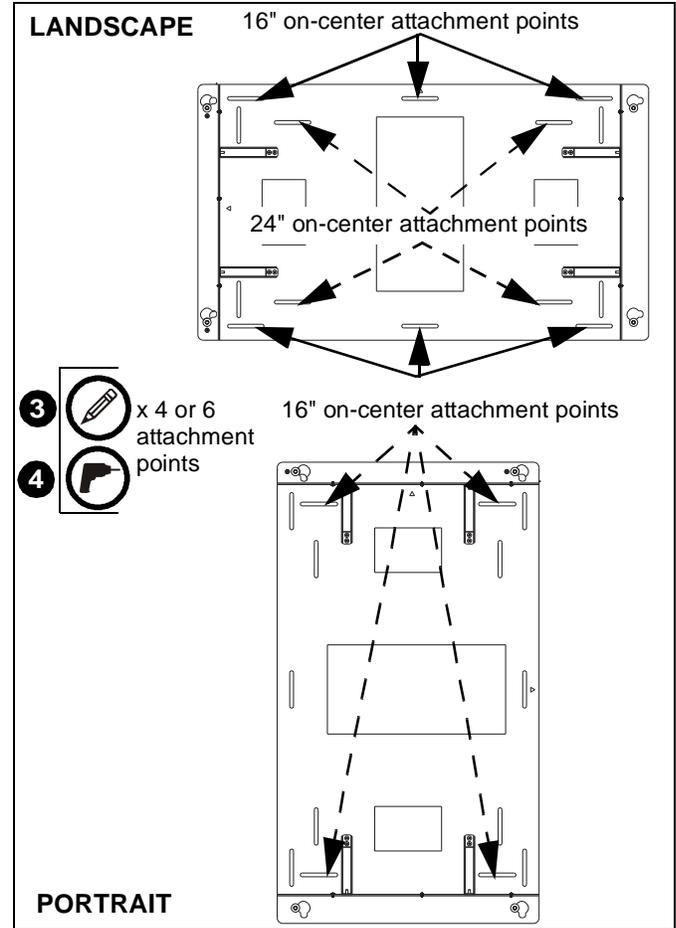

Figure 2
2. Level and adjust PSMO2086 making certain slots at upper and lower edges are properly positioned over studs for either a 16" on-center wood studs installation (landscape or portrait) or a 24" on-center wood stud installation (landscape only). (See Figure 2)
3. Mark the location of four or six mounting holes onto wall. (See Figure 2)
4. Drill four or six pilot holes at marked locations. (See Table 1) and (See Figure 2)